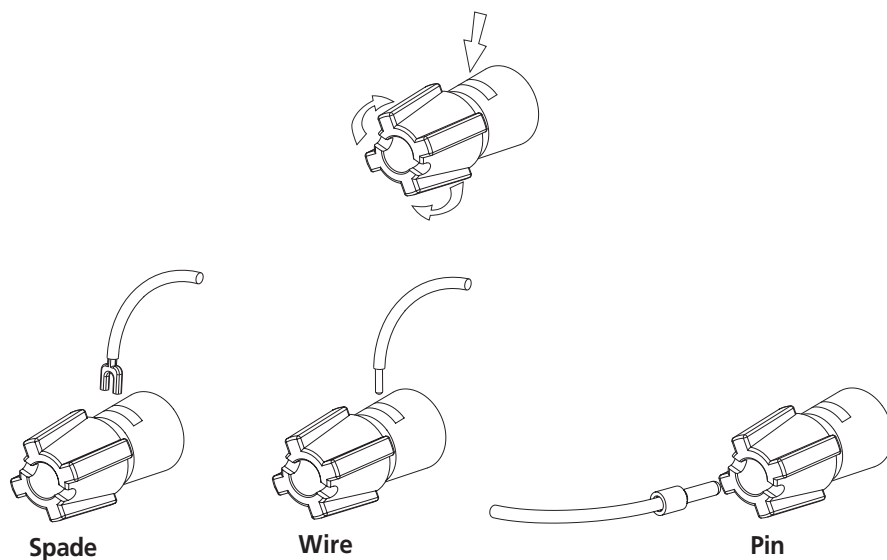

Figure 2
Connect the wires from one of your speakers to the "+" and "-" terminals on the rear panel of the NAD CI-series amplifier. In each channel, the red terminal is the positive "+" output, and the black terminal is the negative "-" or "ground" terminal (see Figure 2).
- 1 **Pin connectors:** A pin connector is a slim metal shaft that is crimped or soldered onto the end of a wire. The threaded shaft of each binding post contains an opening that accepts pin connectors up to 3mm in diameter. Unscrew the plastic bushing on each terminal to expose the hole in the metal shaft. Insert the pin connector through the hole, and turn the bushing clockwise until it is tight (see Figure 2).
- 2 **Spade lugs:** Unscrew the plastic bushing, insert the U-shaped spade lug into the oblong gap and tighten the bushing down on it (see Figure 2).
- 3 **Bare wires:** Separate the two conductors of the cord (if they are supplied as a pair), and strip off a half-inch (1cm) of insulation from each. In each conductor, twist together the exposed wire strands. Unscrew the plastic bushings for "+" and "-", insert the bare wire through the hole in the metal shaft, and tighten the plastic bushing until it grasps the wire securely (see Figure 2). Check to be sure that no loose strand of wire is touching the chassis or an adjacent terminal. **Re-tighten the bushing after a week or so to make sure that any play that may have developed is eliminated.**